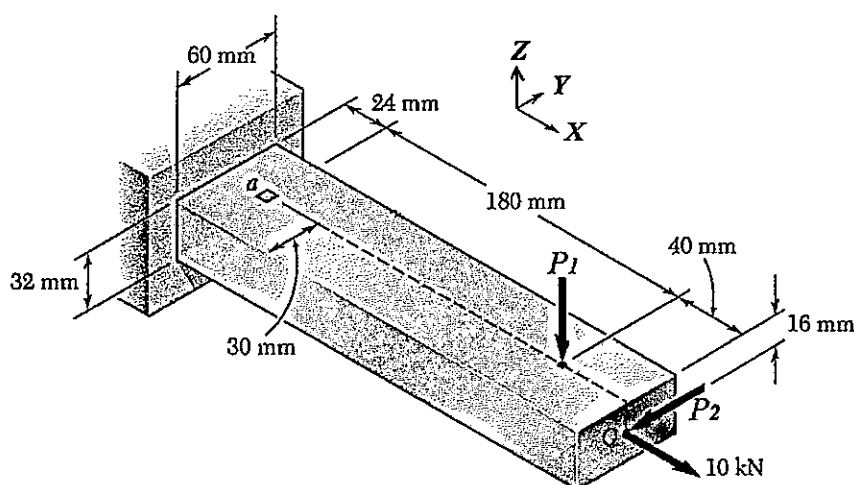
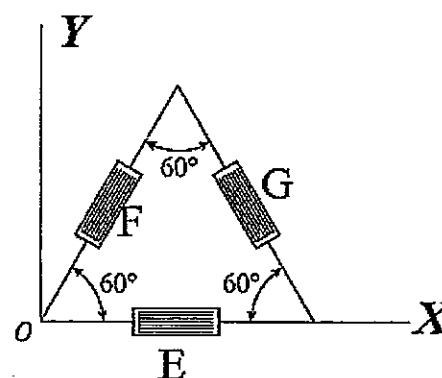

Fig. 4-1
Fig. 4-2
4. The cantilever beam of Fig. 4.1 is subjected to three external loads as shown in the figure. The directions of the three force P_1 , P_2 and 10 kN are in the negative Z , negative Y , and positive X directions, respectively. The material of the beam has a Poisson's ratio ν of 0.3, a modulus of elasticity (E) of 200 GPa, and a shear modulus (G) of 70 GPa. Three strain gages E , F and G are attached to the beam at Point a as shown in Fig. 4-2 in the manner shown in Fig. 4-2 to measure strains. Gages E and F measure the normal strains ϵ_E and ϵ_F in the directions along the X axis and 60° -counterclockwise from the X axis, respectively. The values of ϵ_E and ϵ_F are 91.95×10^{-6} and -0.12×10^{-6} , respectively.